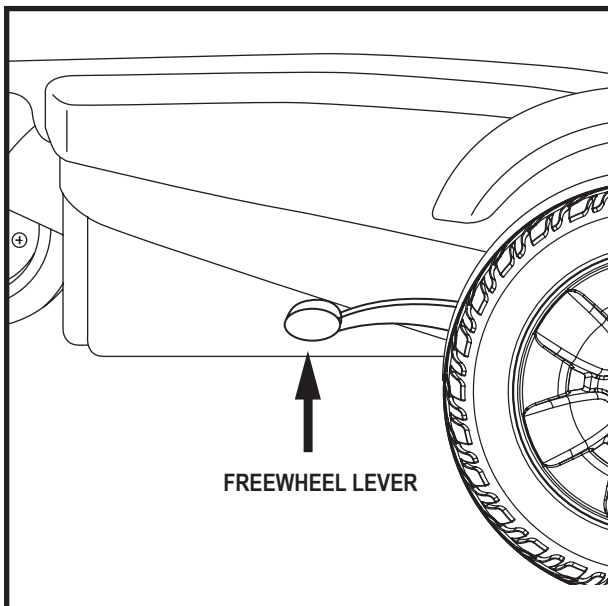

Figure 4. Drive Mode (Drive Engaged)
2. Pull both levers upward to engage the drive motors (drive mode). See figure 4.
2. Ensure the power chair is in drive mode. See figure 4.